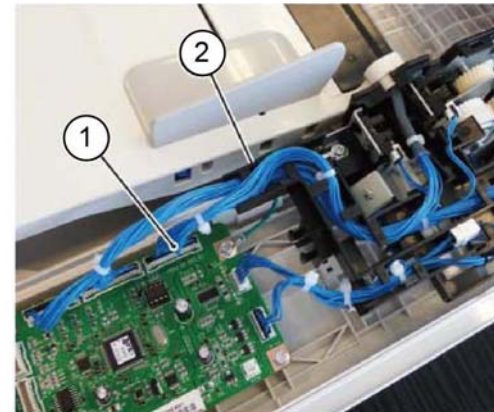

Figure 1 Harness removal
3. Remove the document tray harness, Figure 1:
- a. Disconnect the connector (1).
- b. Remove the harness from the harness guide (2).